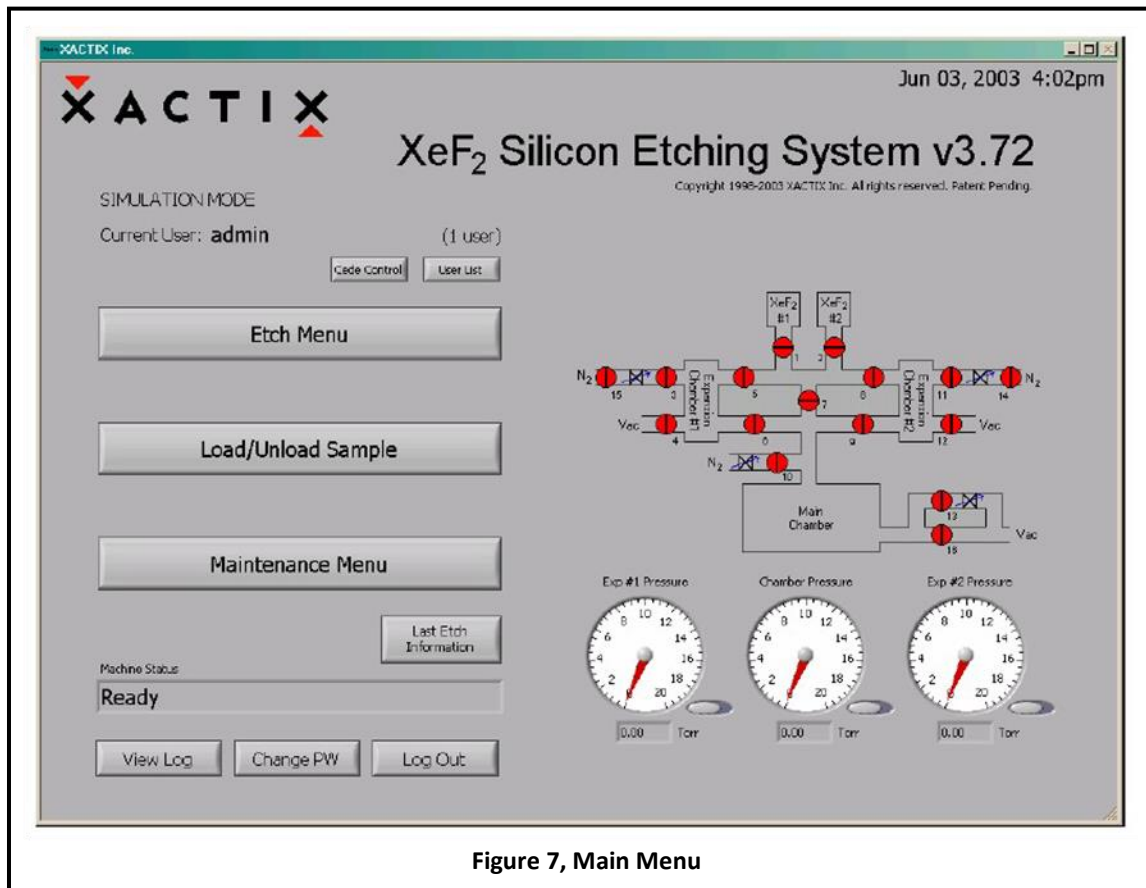

Figure 7, Main Menu
- Figure 7, Main Menu 6
6.3.1 Press Load/Unload Sample button on the Main Menu. See *Figure 7*.
7.2.1 Select the Etch Menu button on the main menu. See *Figure 7*.